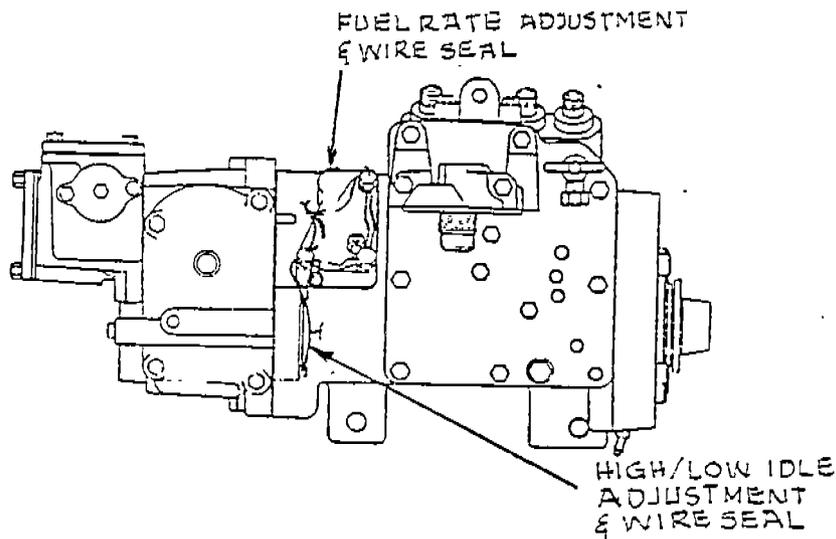

FIGURE 2- SEALED ENGINE ADJUSTMENTS
- (WEEKLY) 7. () The fuel injection rate adjustment mechanism and the engine governor setting are locked and sealed. (Figure 2)*